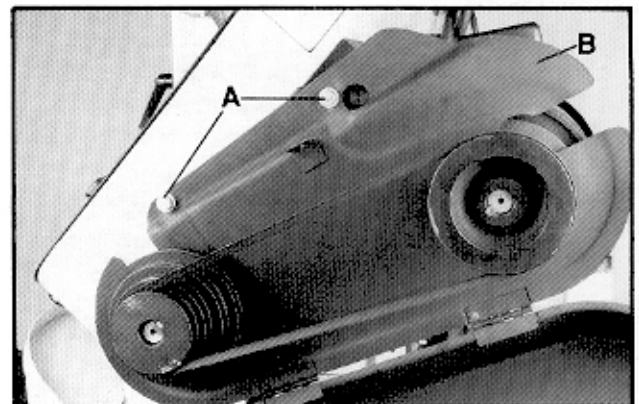

Fig. 3
8. Remove two hex cap bolts and washers (A, Fig. 3) from the right side of the saw arm.
9. Slide belt cover (B, Fig. 3) around pulley shafts and attach to saw with two hex cap bolts and two washers.